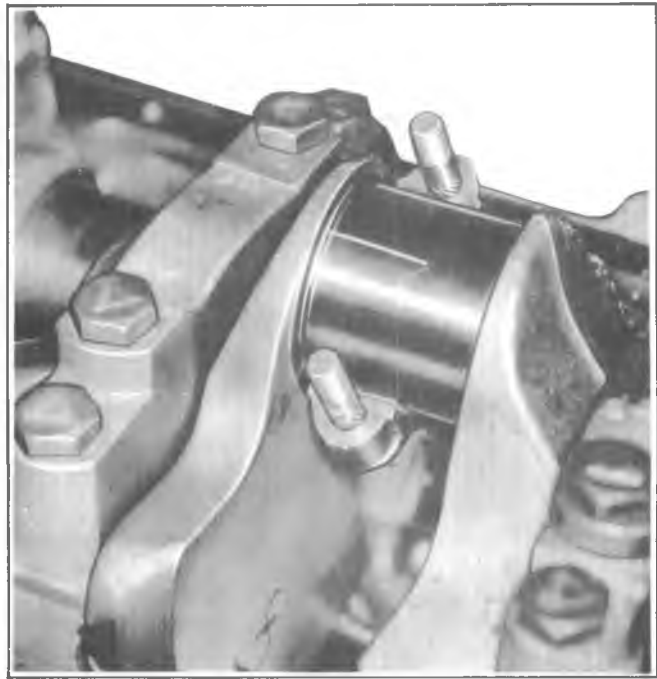

Fig. 6A4-40--Gaging Plastic On Crankpin
- a. Place a piece of gaging plastic, the length of the bearing (parallel to the crankshaft), on the crankpin or bearing surface (fig. 6A4-40).